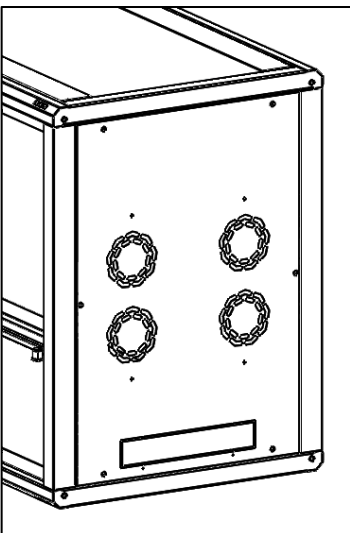

Figure 13
Place the Top Case with Fan cutout as shown on the **Figure 13** and Tighten M5x15 YSB Screws (B)